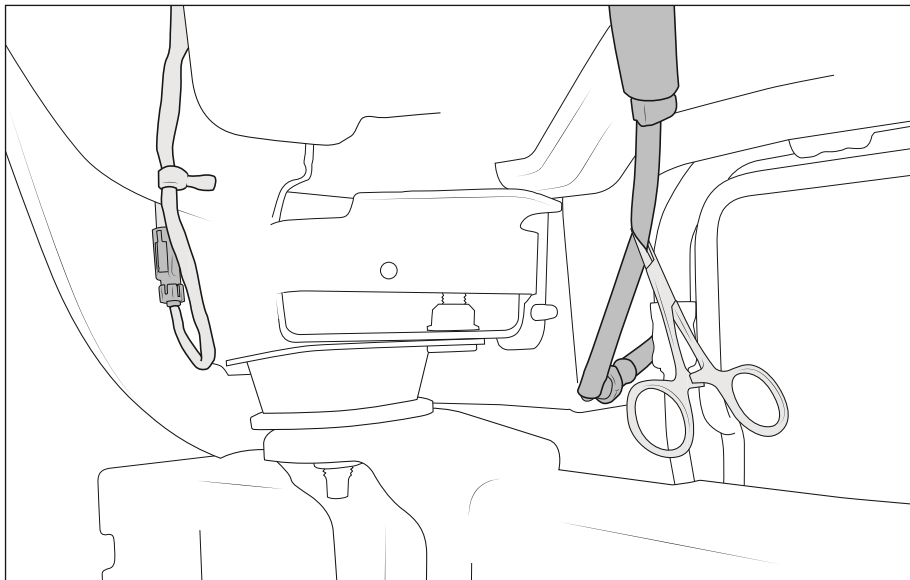

Figure 1
A. Pull the front of the driver side wheel liner up and locate the wiring harness and rubber hose along the frame rail by the forward body mount. Disconnect the wiring harness and rubber hose quick connect. We recommend clamping off the rubber hose upstream of the connector, otherwise washer fluid will run out the exposed end once disconnected. Unclip the wiring harness from the retainer bracket and cut off the Christmas-tree wire tie (fig. 1).